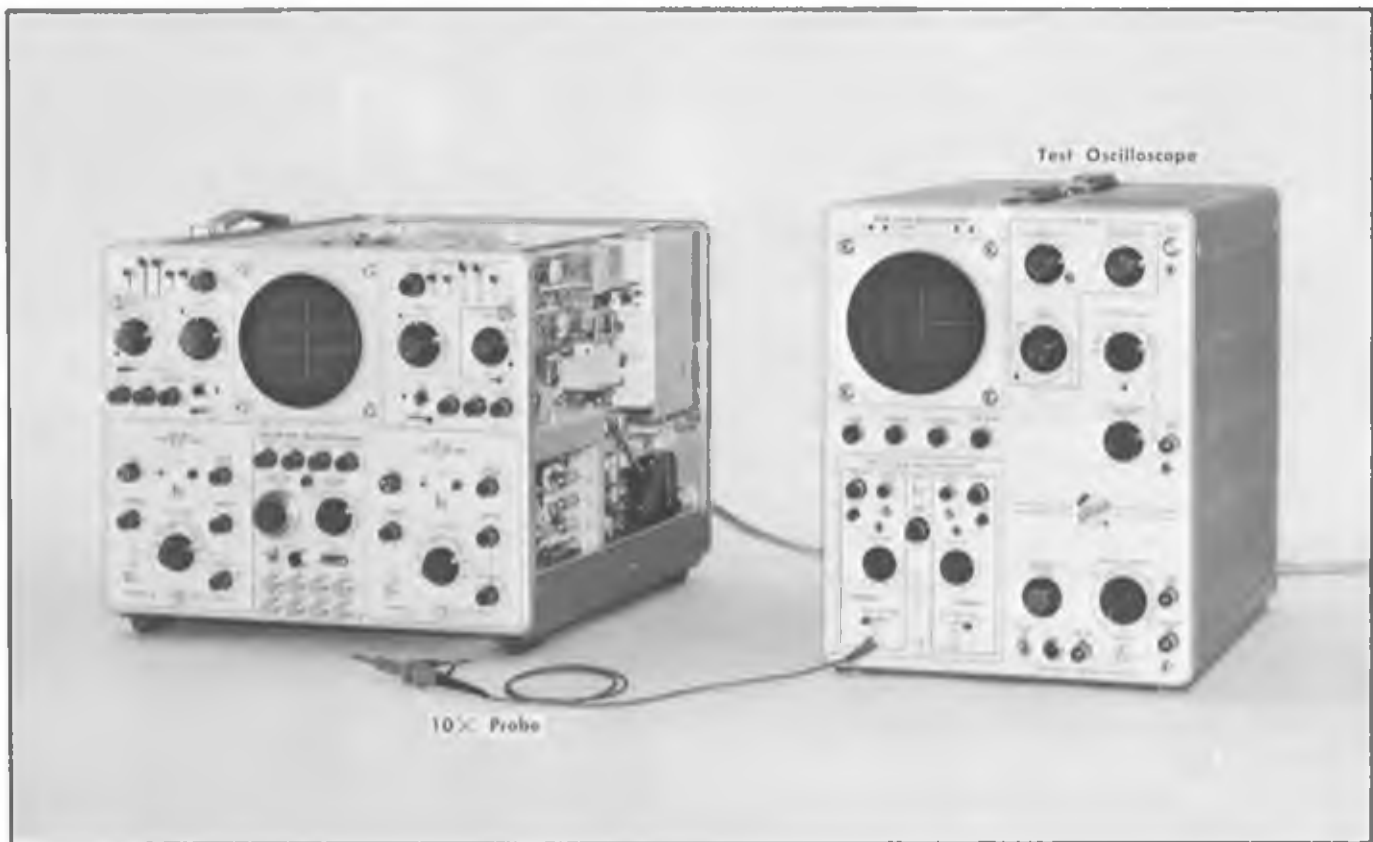

Fig. 6-57. Test equipment setup for checking external waveforms.
- The initial test setup and control settings are shown in Fig. 6-57.